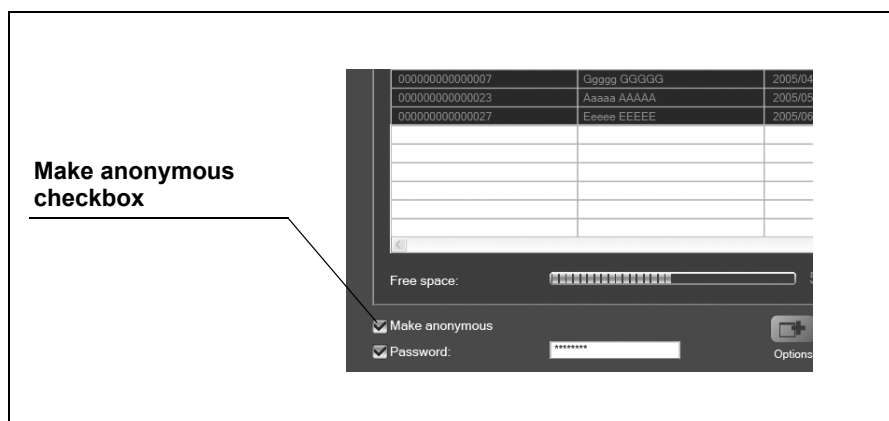

Figure 6.101
8. Check the “Make anonymous” checkbox to write the examination data with the individual information removed (see Figure 6.101).